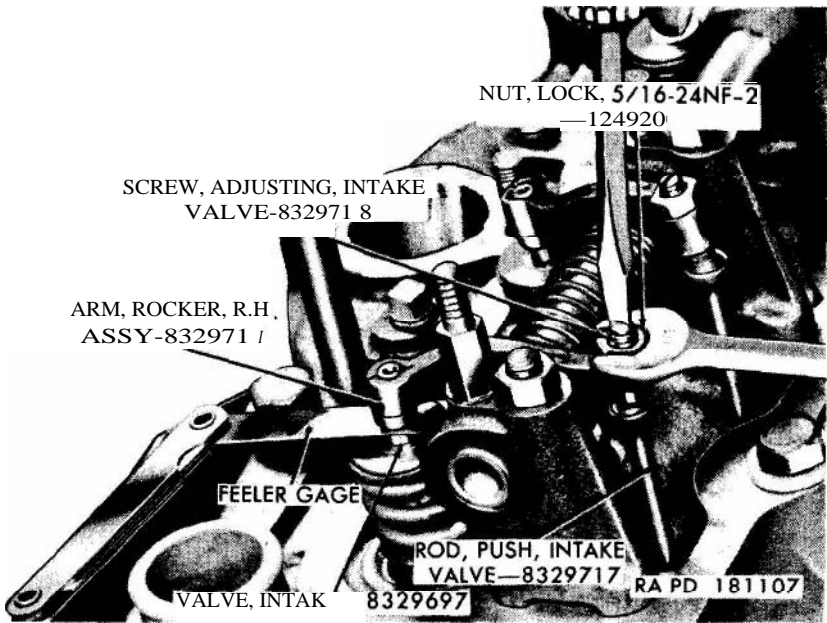

Figure 96. Adjusting intake valve clearance.
b. Adjust the clearance by loosening the intake valve adjusting screw lock nut (*fig. 96*) and turning the adjusting screw in or out to close or open the gap between the end of the intake valve and the rocker arm. Turn the screw clockwise to close the gap and counter-clockwise to open the gap. When the gap is adjusted so that a 0.018-